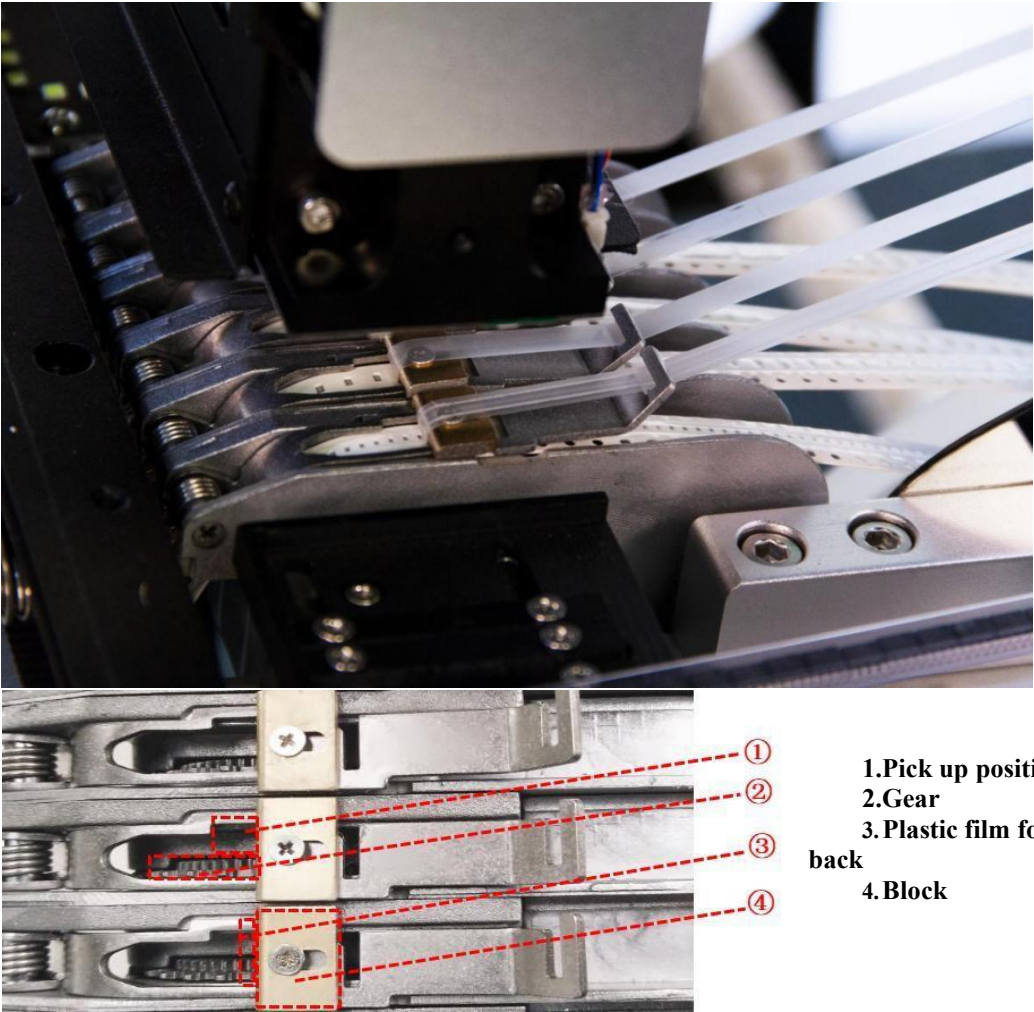

Figure5.1
- (1) Lift the angled tab on the feeder, and insert the tape so the sprocket holes rest on the tooth of the gear. See the Figure 5.1.
- (2) Pull the end of the cover tape through the large feeding slot in the feeder, over the brass block.
- (3) Allow the spring to pull the feeder cover over the tape.
- (4) Lift the silver tab on the peeler to separate the gears.
- (5) Thread the cover tape through the slot on the angled tab, and through the gears on the peeler until the tape extends through the back slot of the peeler. If the tape does not extend through the whole peeler before the gears are closed, it will likely jam.
- (6) Allow the spring in the peeler to close the plastic feeding gears.